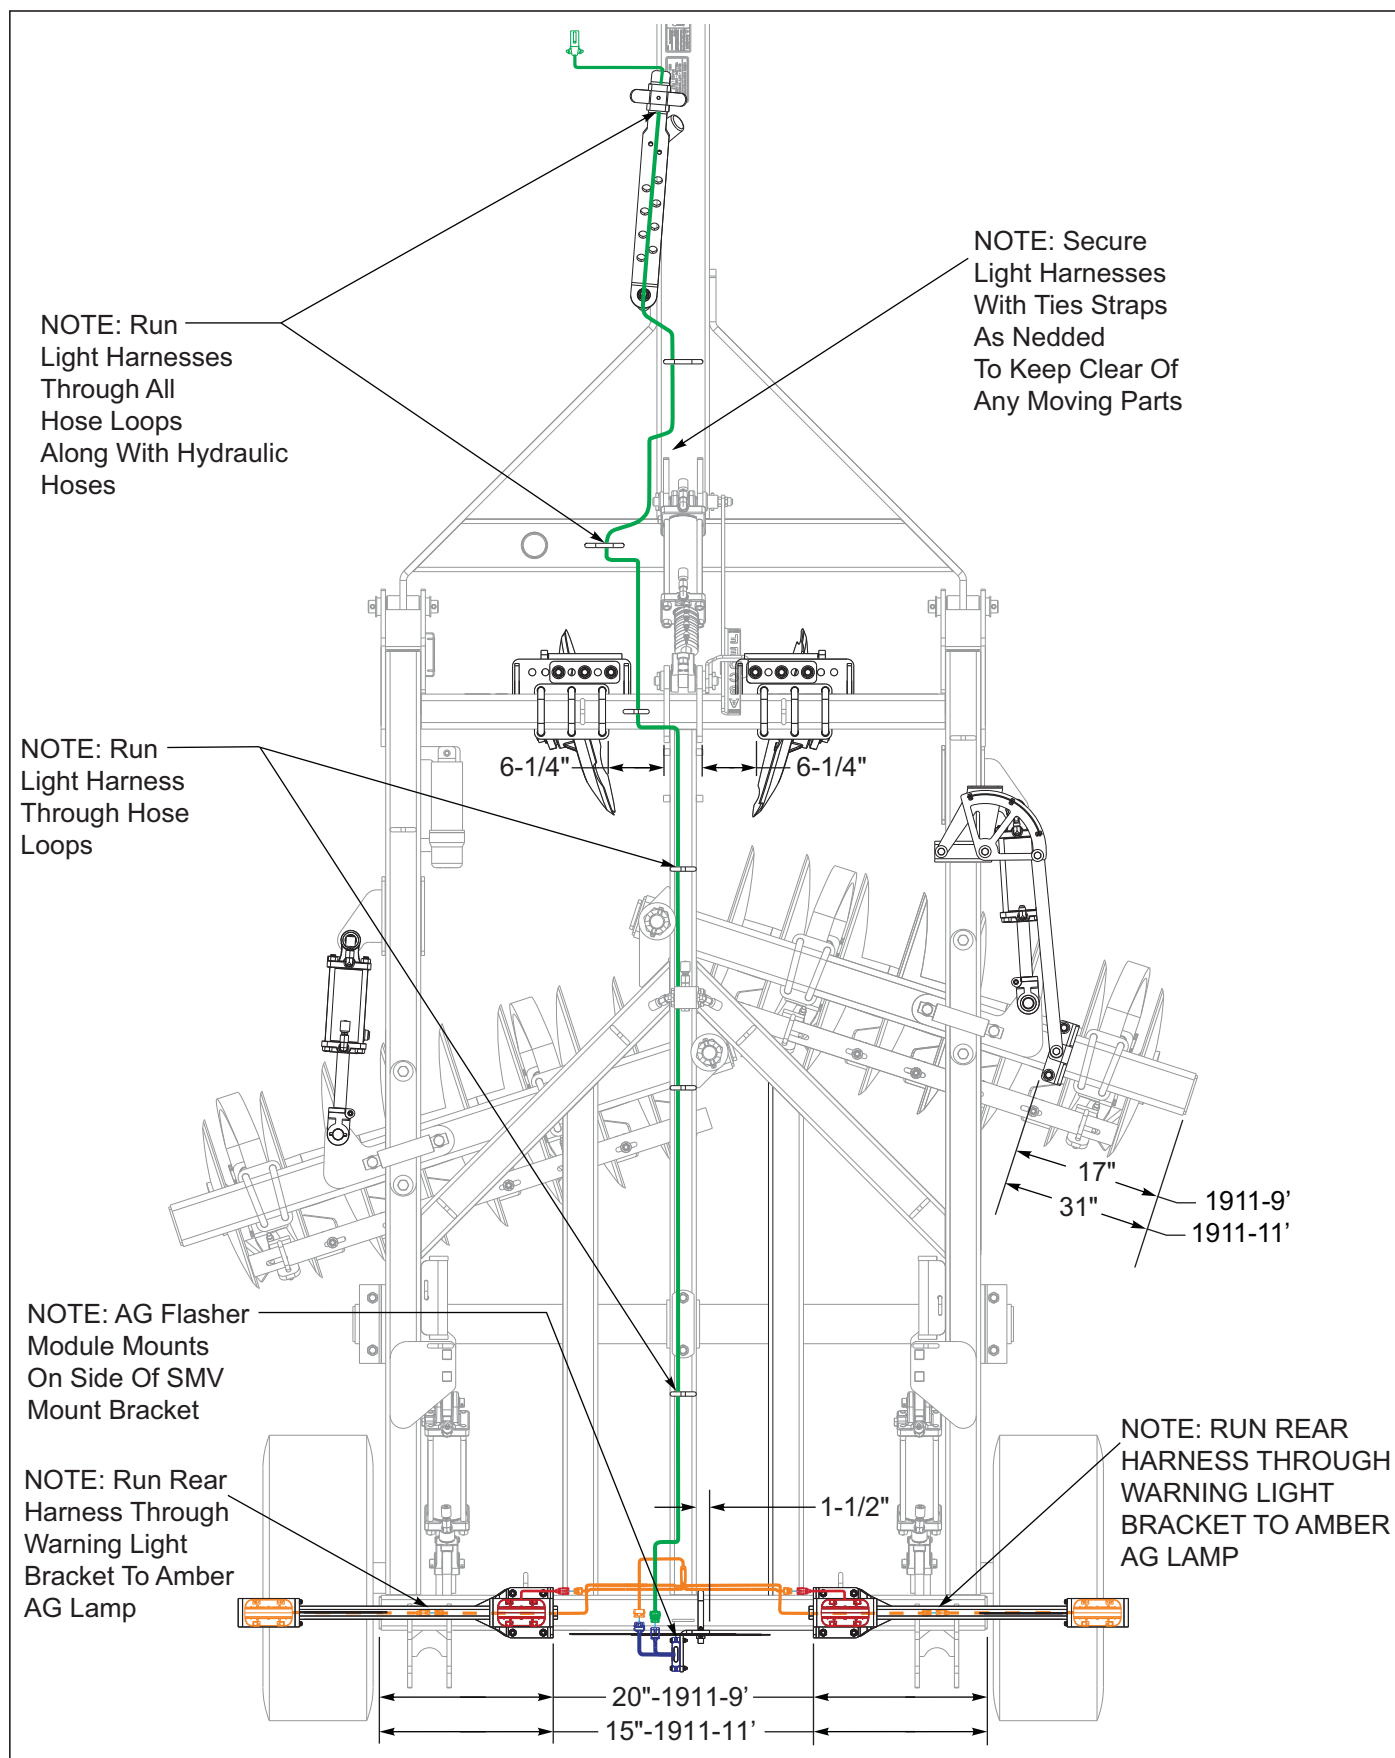

Figure 3-9: LED Light and Gang Angle Gauge Placement
6. **See Figure 3-9** for smv mounting bracket, warning light brackets and gang angle gauge bracket placement.
9. Insure that the harnesses are clear of any moving parts and secure the harnesses with tie steps provided. Route front harness through all hose loops and clamp. **See Figure 3-9** for proper front and rear harness routing.